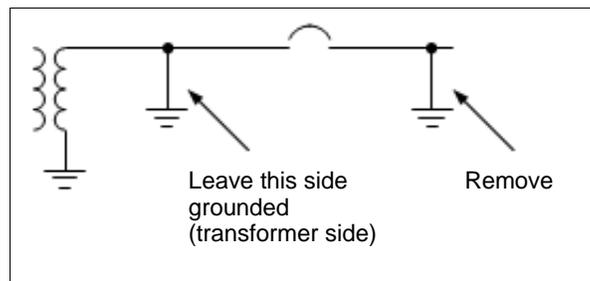

Figure 158 Neutral-Grounded Transformer and Ground Connections
- Leave in place the ground connections between the transformer and the circuit breaker (Figure 158).